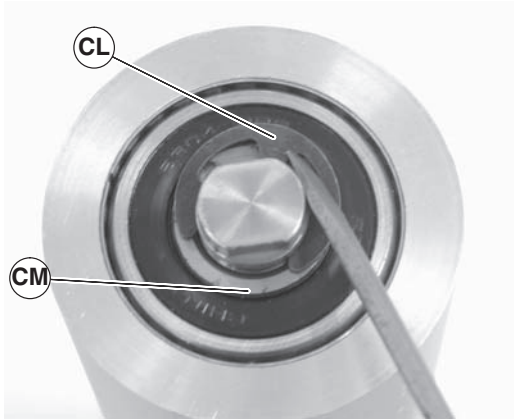

Figure 64
5. Remove the pulley shaft assembly: remove the clip ring (Figure 64, item CL) and washer (CM) from one side of the pulley assembly.